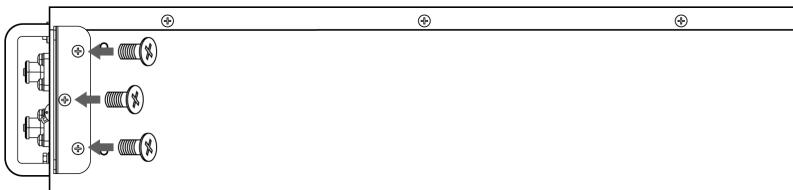

Figure 4-2
- f) Use the 6 screws of M4*8 to fix the mounting lugs to both sides battery, as show in Figure 4-2.